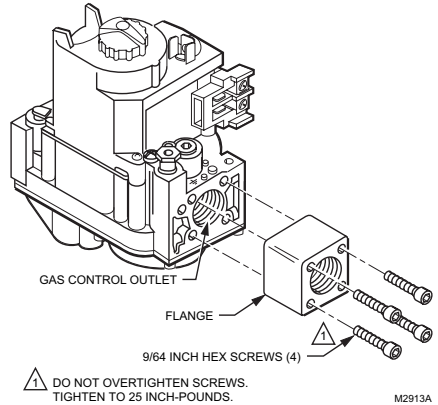

Fig. 2. Fasten flange to valve firmly, but do not overtighten screws.
4. With O-ring facing the valve, align the screw holes on the control with the holes in the flange. Insert and tighten the screws provided with the flange. (See Fig. 2). Tighten the screws to 25 in. pounds (2.82 n-m) of torque to provide a gas-tight seal.